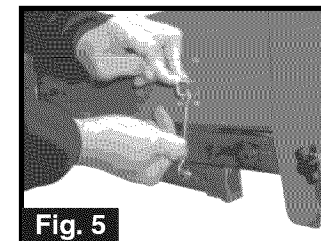
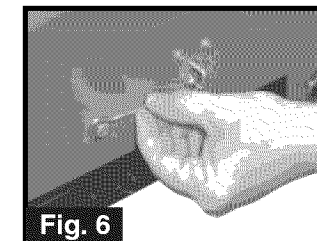
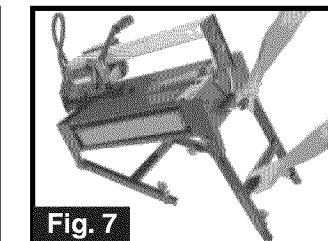

Fig. 5
Fig. 6
Fig. 7
5. To release saw table legs, pull out hook from latch and attach to peg on table base (fig. 5 and fig. 6). Grab and pull the single padded table handle on one end of tile saw and lift to unfold the first set of legs (Fig.7).